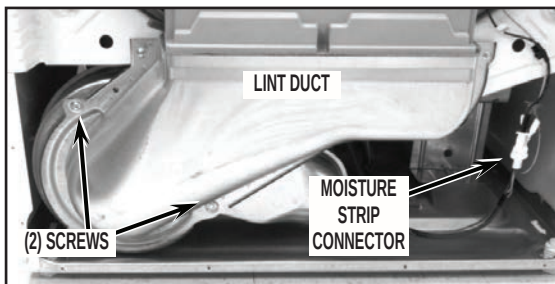

FIGURE 6
7. Disconnect moisture strip connector located in lower right front corner of the dryer. See *Figure 6*.
8. Remove the two (2) lower lint duct screws. See *Figure 6*.